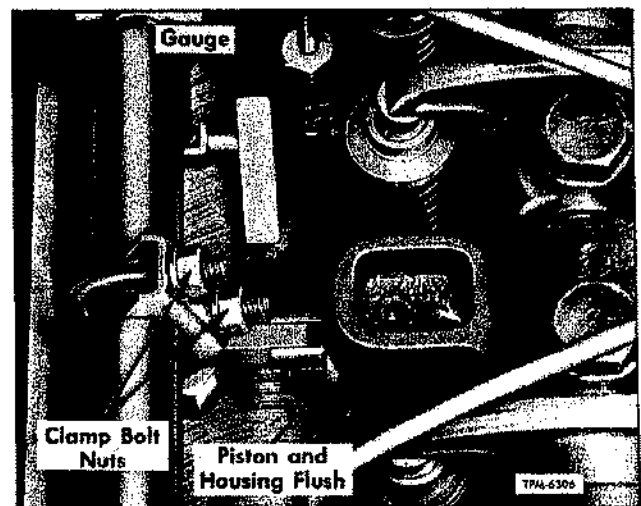

Figure 7—Throttle Delay Adjustment
The following instructions outline a procedure to follow when adjusting the throttle delay cylinder. Refer to figure 7.
3. Temporarily install a gauge between injector body and shoulder on injector rack (fig. 7). Gauge is .404" (approx. $1\frac{3}{32}$ ") thick and can be made locally.